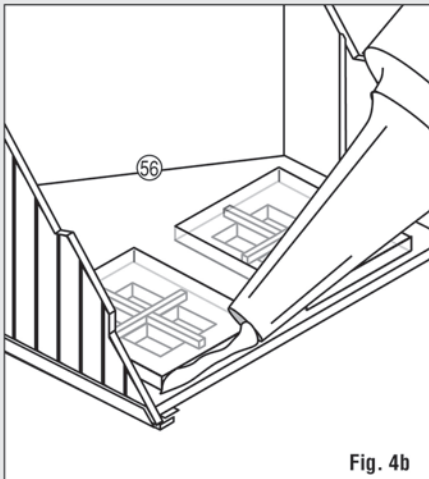

Fig. 4b
- Install Window Material in Dormer Windows x2 56 (**Fig. 4b**).